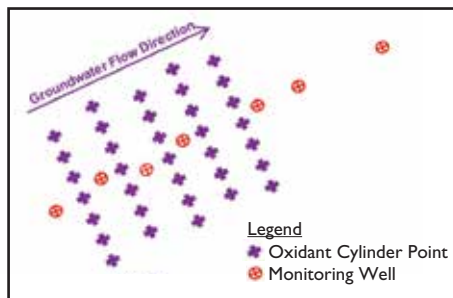

Figure 2: Reactive Barrier/Zone
- Reactive barrier/zone (figure 2)